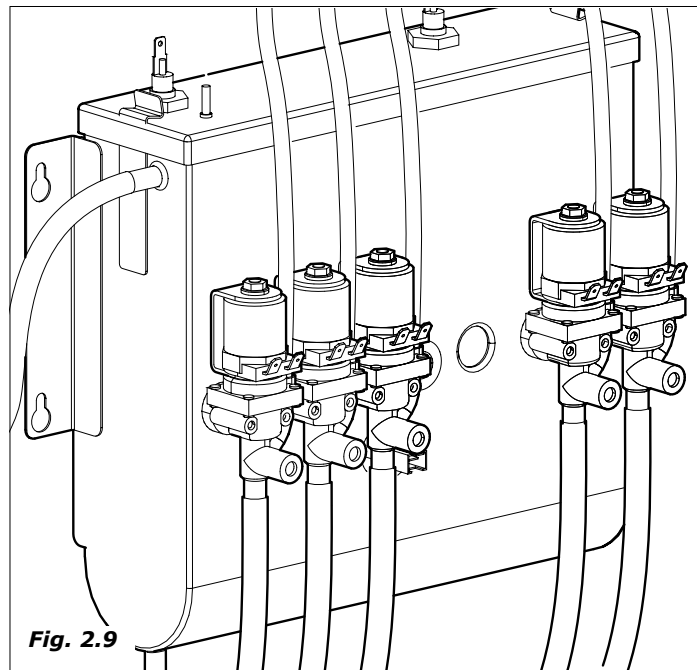
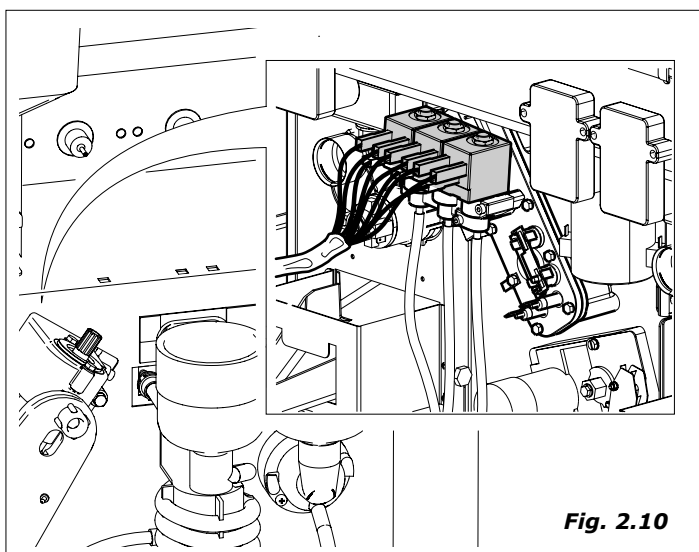

Fig. 2.9
Fig. 2.10
- The electro valve fixed on the soup boiler (Fig.2.9) or on the coffee boiler (Fig.2.10). it is activated to introduce into the mixer the programmed water quantity.